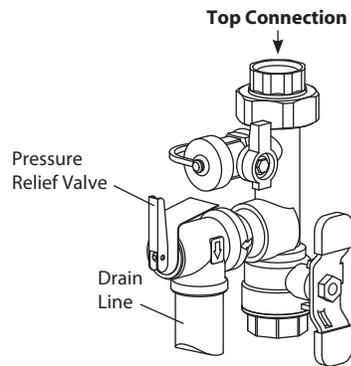

Figure 1: Hot Water Service Valve
- Thread the pressure relief valve into the 3/4" port on the side of the hot water valve and hand tighten. Using a wrench, tighten the pressure relief valve until the discharge on the pressure relief valve is positioned downward on the isolation valve, as shown in Figure 1.